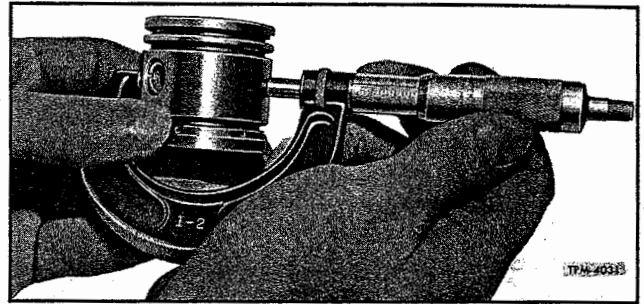

Figure 33—Measuring Piston Diameter
8. Pistons (Fig. 33). Examine pistons for scoring, cracks, or damage of any kind. Measure outside diameter of piston with a micrometer and compare this measurement with the inside diameter of cylinder bore. Clearance should not be less than 0.002" or more than 0.004". Piston over 0.004" smaller than cylinder bore must be replaced with an oversize piston.